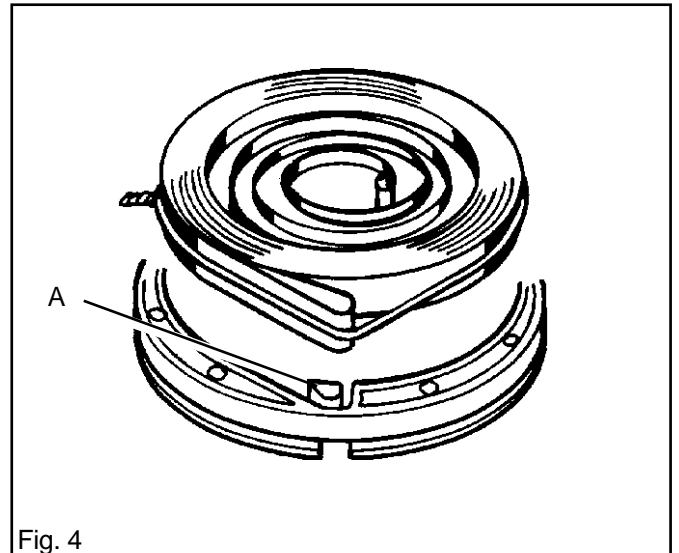

Fig. 4
1. If a new recoil spring is to be used, place the new spring, with retaining wire, such that the end loop of the spring is over the peg (A) on the cord pulley. See fig. 4.